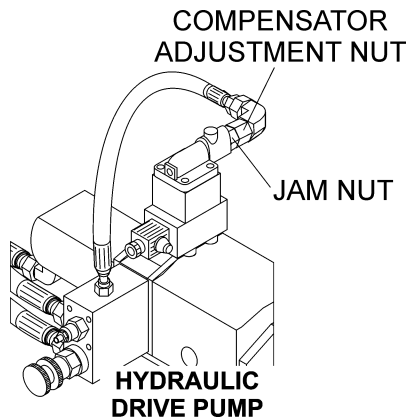

Figure 50. Compensator Valve
2. Loosen the **jam nut** located on the end of the compensator valve (Figure 50).
3. Turn the **compensator adjustment nut** (Figure 50) **clockwise** until tight. Tighten the 6.4 mm (1/4-inch) hose leading to the compensator.
8. Turn the engine off and loosen the hose from the compensator valve. Loosen the jam nut and turn the **compensator adjustment nut** (Figure 50) **counter-clockwise** 1/2 turn. Tighten the 6.4 mm (1/4-inch) hydraulic hose.